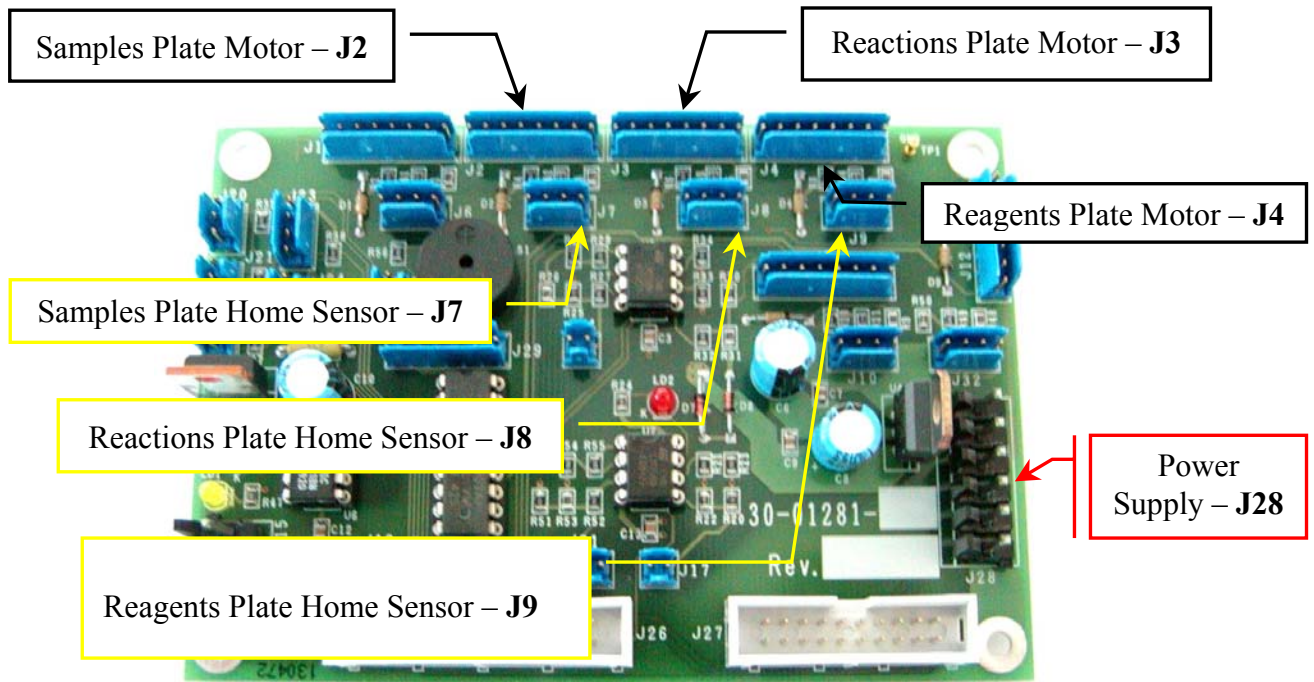

Fig. 57 - Plate Interface Board (Sx) [P/N: 30-01281-01]
34. Unplug the J28 connector and the ground wire from the Plate Interface Board (Fig. 57).
2. Unplug the J4 connector from the Plate Interface Board (Fig. 57).
30. Plug in the J4 connector from the Plate Interface Board (Fig. 57).
9. Unplug the J2 connector from the Plate Interface Board (Fig. 57).
31. Plug in the J2 connector from the Plate Interface Board (Fig. 57).